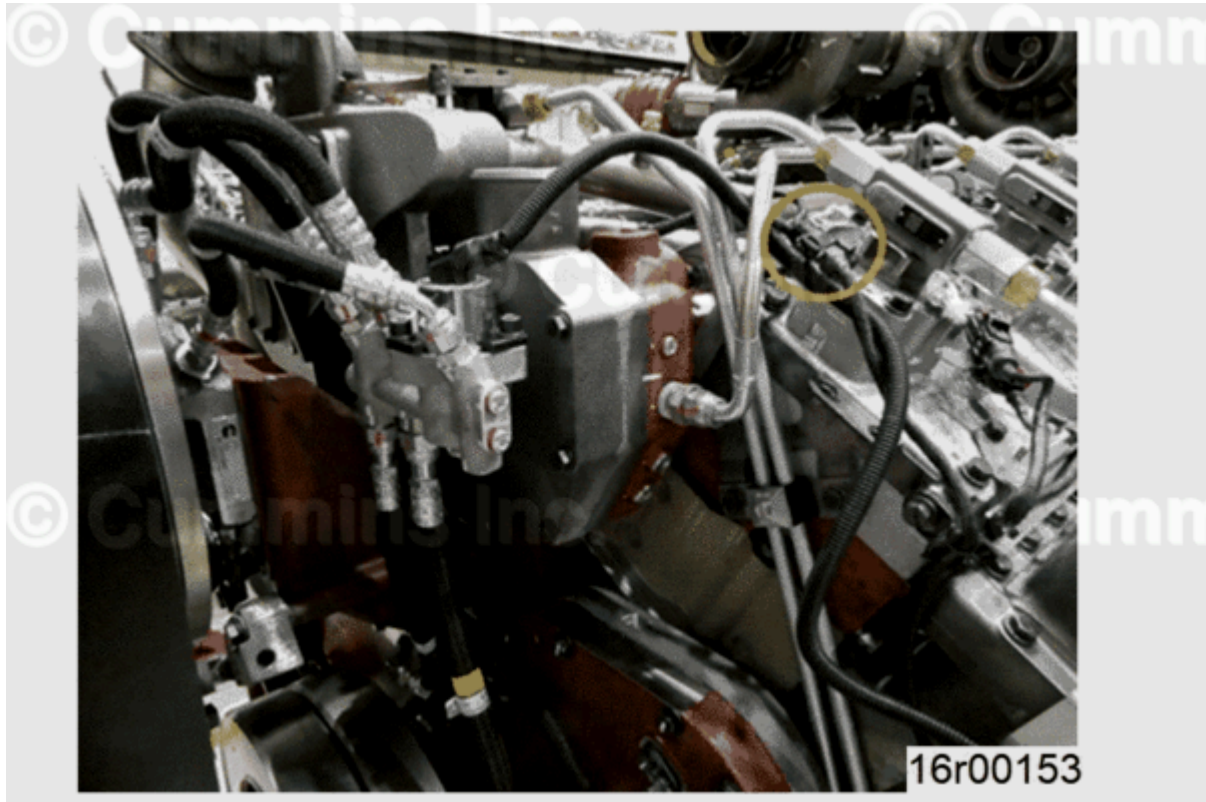

Figure 4, Tier 4 Engine Wiring Harness Route.
- Figure 4 shows the existing Tier 4 solenoid harness route, which has an engine harness P-clipped to it on the rocker cover. Remove the solenoid harness from the engine harness P-clip.